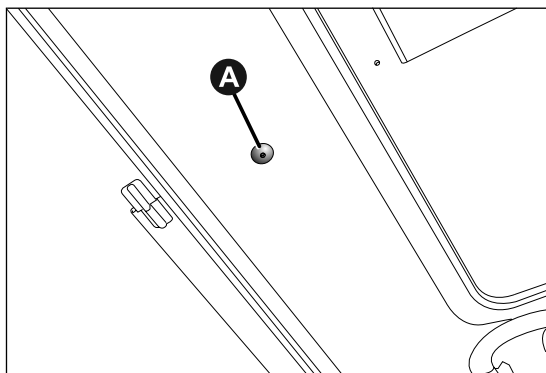

fig. 45
- ☐ for manual activation remove the protective cap A fig. 45 from its housing which is located on the internal covering in front of the sun blind
- ☐ insert the key provided into the housing A fig. 45 and turn it clockwise to open the roof or anticlockwise to close the roof.